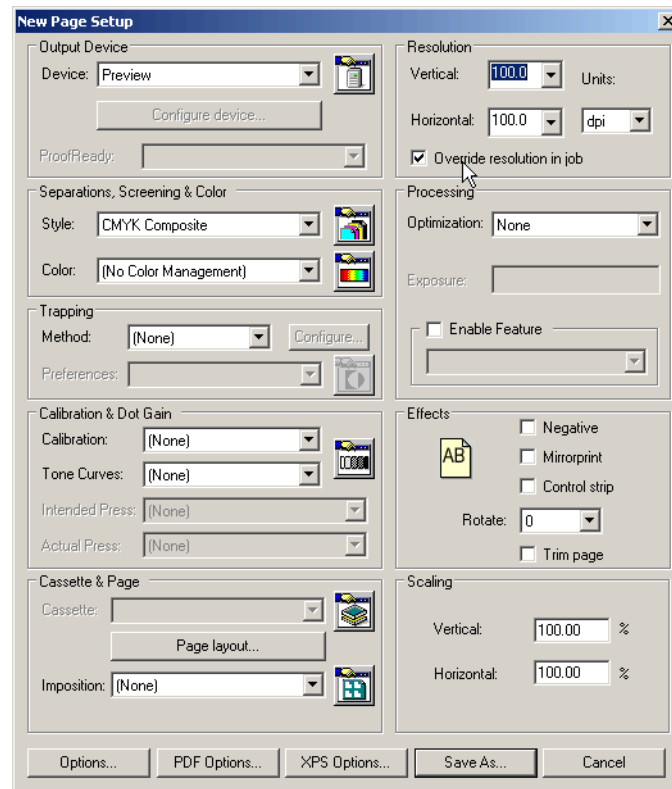

Figure 3.2 New Page Setup dialog box
3. In the Edit Page Setup dialog box, shown in Figure 3.2, set the **Device** to **None** and the **Vertical** and **Horizontal** resolutions to something small, say 72 dpi. If you change the **Device**, you must choose a separations style listed in the **Style** drop-down list and, for some devices, a cassette name from the **Cassette** drop-down list.
2. In the Page Setup Manager dialog box, select `Default Page Setup` and click **Copy** to display the New Page Setup dialog box. The New Page Setup dialog box is very similar to the Edit Page Setup dialog box, shown in Figure 3.2 on page 45.